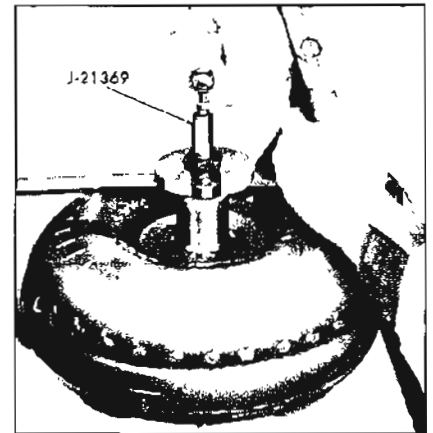

Figure 5-672
1. Check converter for leaks as follows: (See Figure 5-672.)